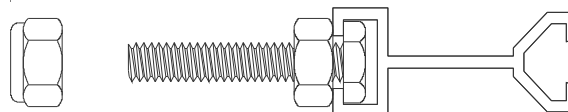

Figure 11
**STEP 18.** Using the lock nuts provided by the factory, fasten each centering bar bolt into position along the subchannel (see Figure 11).